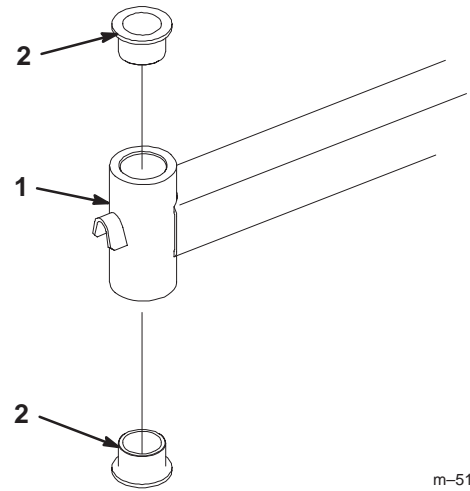

Figure 67
- Insert a pin punch into the mounting tube and carefully drive out the bushings (Fig. 67). Clean the inside of the mounting tube.